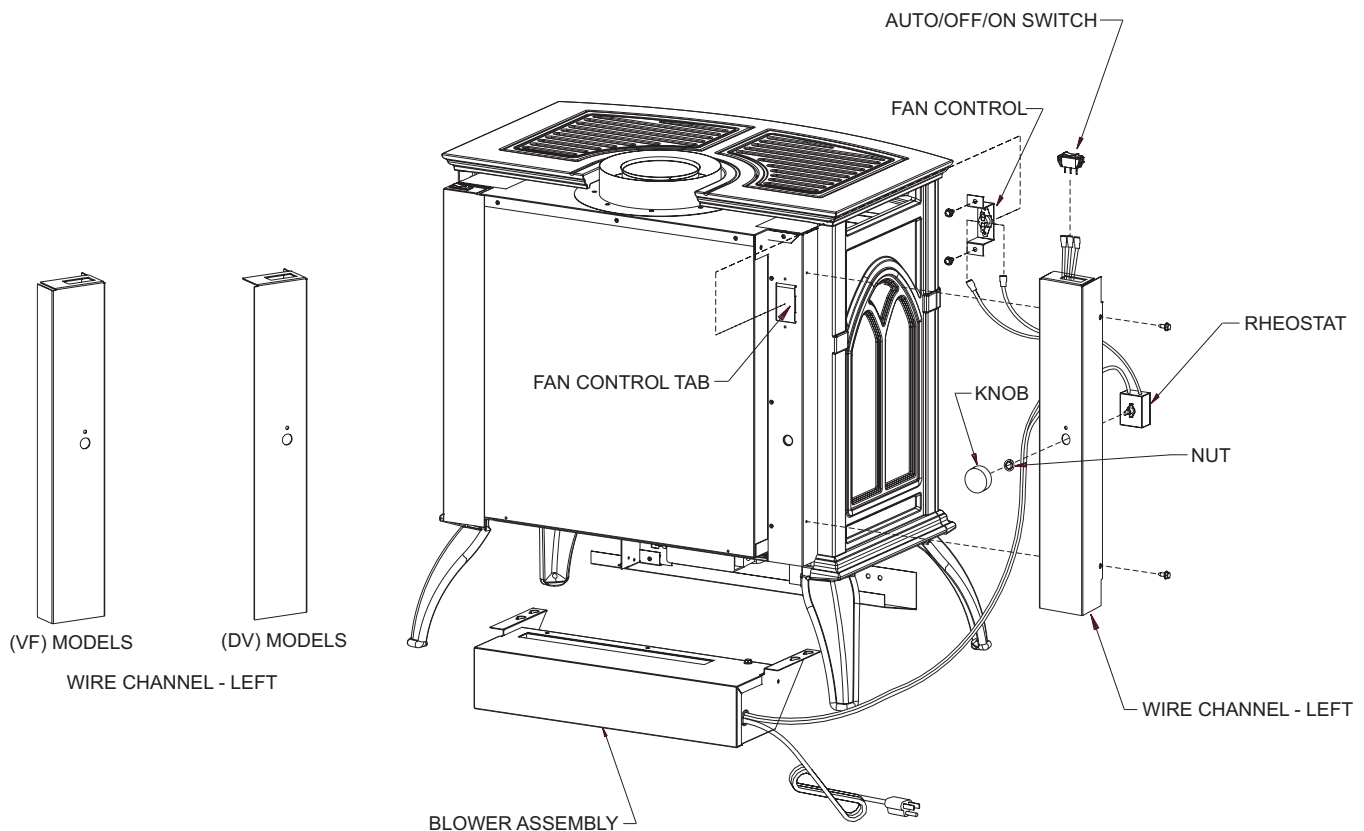

Figure 40
1. Loosen, but do not remove, four (4) hex-head screws located on the exterior, bottom of the appliance.
2. Position the blower assembly at the rear of the appliance. The blower assembly has four (4) keyholes for attachment to the exterior, bottom of the appliance.
3. Place the large diameter holes in the keyholes over and behind the four (4) hex-head screws that were loosened in Step 1. Push inward on the blower assembly to lock the keyholes into position behind the screws. Tighten four (4) hex-head screws to secure blower assembly to exterior, bottom of the appliance.
4. Remove wire channel-left from appliance by removing (2) 10 x 1/2" screws on left side of the appliance. Note: Some units require a new wire channel. If Rheostat mounting holes are missing from part removed from unit, discard wire channel removed from unit and continue installation with appropriate wire channel shipped with blower. See Figure 40.
13. Bend the fan control tab, located on the left side of the back of the unit, inward toward the unit. See Figure 40. Be sure tab is bent at least 90 degrees to allow fan control bracket to slide into slot.
14. Attach fan control with bracket onto rear cover with two (2) 10 x 1/2" screws provided in hardware package.
16. Attach wire channel to channel divider with two (2) 10 x 1/2" screws from Step 4.